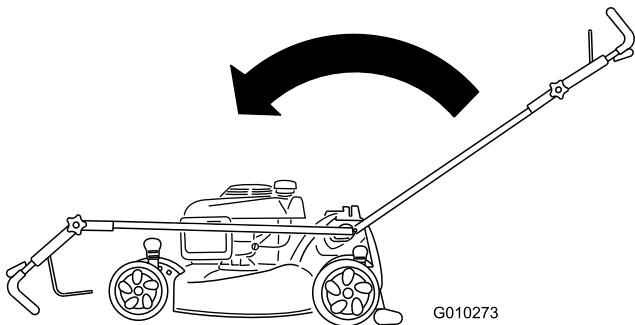

**Figure 52**
2. Move the handle to the upright position (Figure 52).